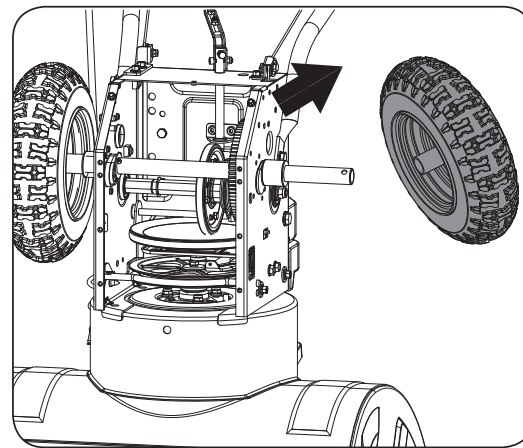

Figure 19a
4. Remove the right-hand wheel by removing the axle lock pin. (See **Figure 19a**)